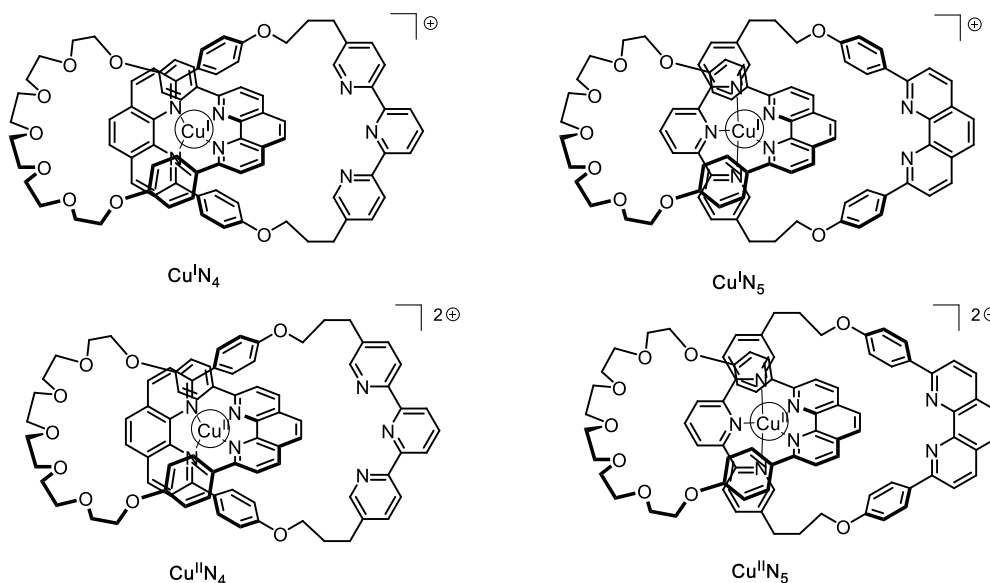

Fig. 2 – [2]catenane **L** states
11. **Fill** in the solid boxes with the designation of the involved complexes in Fig. 2 and **complete** the sequence to achieve electrochemical control of the system using the following notation for the dashed boxes:  (rotation);  $+e^-$ ;  $-e^-$ .